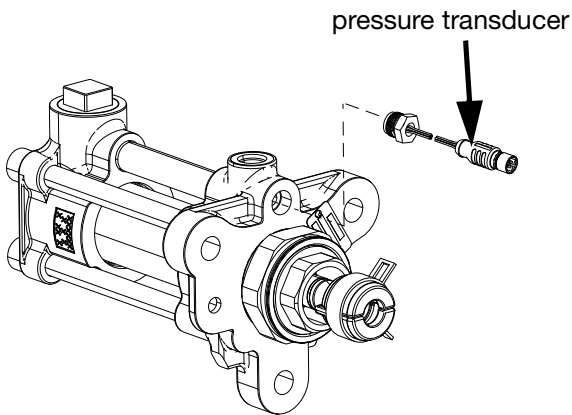

FIG. 11
- d. Remove the plugs installed on the back of the A and B pumps, and install the pressure transducers as shown in FIG. 11.